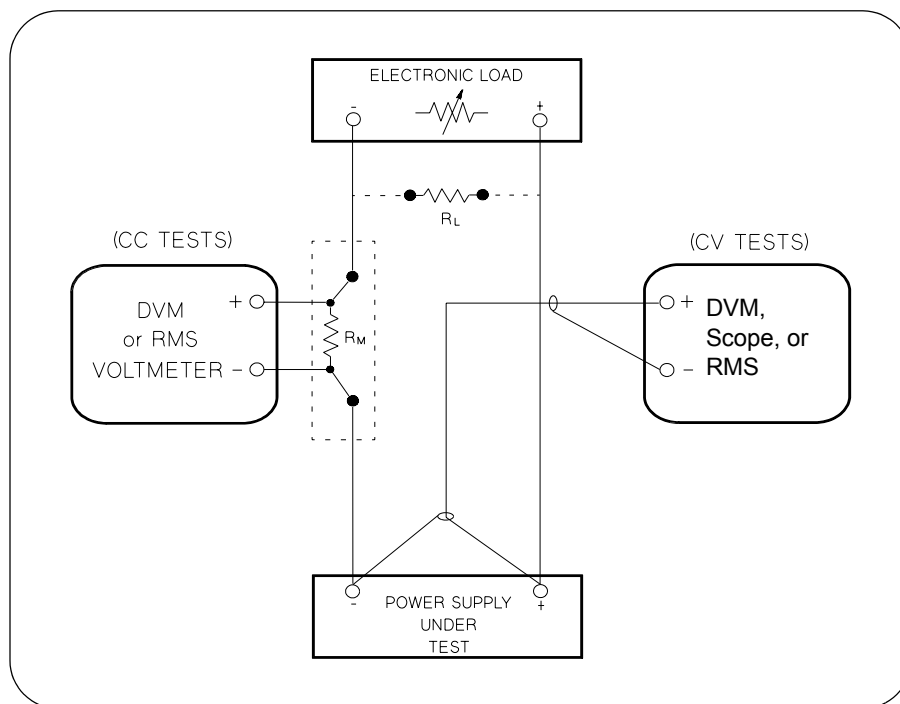

Figure A-1 Performance Verification Test Setup
Most tests are performed at the front terminals as shown in Figure A-1. Measure the dc voltage directly at the (+) and (-) terminals on the front panel.
To eliminate output current measurement error caused by the voltage drops in the leads and connections, connect the current monitoring resistor between the (-) output terminal and the load as a four-terminal device. Connect the current-monitoring leads inside the load-lead connections directly at the monitoring points on the resistor element (see R_M in Figure A-1).
- 1 Turn off the power supply and connect a digital voltmeter between the (+) and (-) terminals of the output to be tested as shown in Figure A-1.
- 1 Turn off the power supply and connect a digital voltmeter between the (+) and (-) terminals of the output as shown in Figure A-1.
- 4 Operate the electronic load in open mode (input off). Record the output voltage reading on the digital voltmeter immediately. The difference between the digital voltmeter readings in steps (3) and (4) is the CV load regulation. The difference of the readings during the immediate change should be within the limit of (5 mV)* or (9 mV)**.
- 6 Adjust the transformer to high line voltage (127 Vac for nominal 115 Vac, 110 Vac for nominal 100 Vac, or 253 Vac for nominal 230 Vac). Record the voltage reading on the digital voltmeter immediately. The difference between the digital voltmeter readings in steps (5) and (6) is the CV line regulation. The difference of the readings during the immediate change should be within the limit of (5 mV)* or (9 mV)**.
- 1 Turn off the power supply and connect the output to be tested as shown in Figure A-1 to an oscilloscope (ac coupled) between (+) and (-) terminals. Set the oscilloscope to AC mode and bandwidth limit to 20 MHz. Connect a resistive load (13.5Ω)[‡] to the terminal at (B) as shown above.
- 1 Turn off the power supply and connect the output to be tested as shown in Figure A-1 with an oscilloscope. Operate the electronic load in constant current mode.